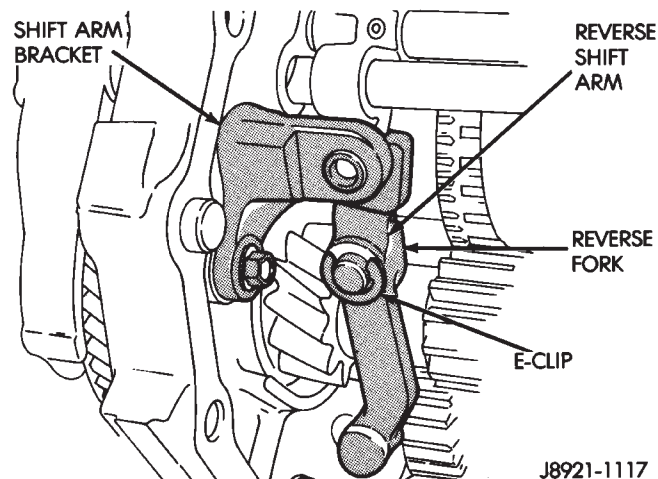

Fig. 64 Reverse Shift Arm Components
(16) Remove bolts holding reverse shift arm bracket to intermediate plate (Fig. 64).